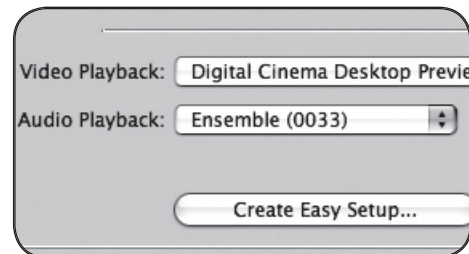

figure 26
1. Playback - Open **Final Cut Pro > Audio Video Settings** and set **Audio Playback** to **Ensemble**. (figure 26)